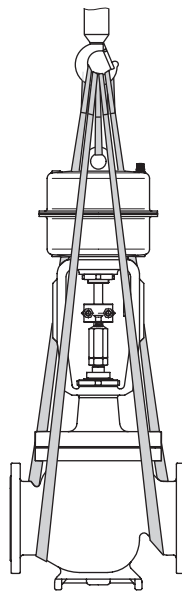

Fig. 4: Lifting points on the control valve (example)
- Make sure that the additional sling between the lifting eyelet, eyebolt or swivel lifting hook and the rigging equipment (hook, shackle etc.) does not bear any load when lifting control valves larger than DN 150 with the actuator already mounted. The sling only protects the control valve from tilting while being lifted. Before lifting the control valve, tighten the sling. The slings attached to the valve body must bear the entire load (see Fig. 4).